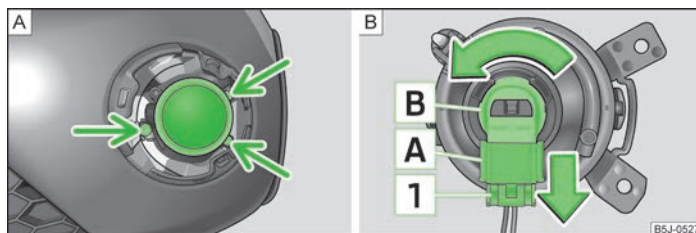

Fig. 152 Front bumper: Fog lights/fog lights: Replacing the light bulb
- » Use the screwdriver » page 158, *Vehicle tool kit* to remove the screws » Fig. 152 - **A**.
- Press the locking button **1** » Fig. 152 of the plug **A** and remove the plug from the socket **B**.